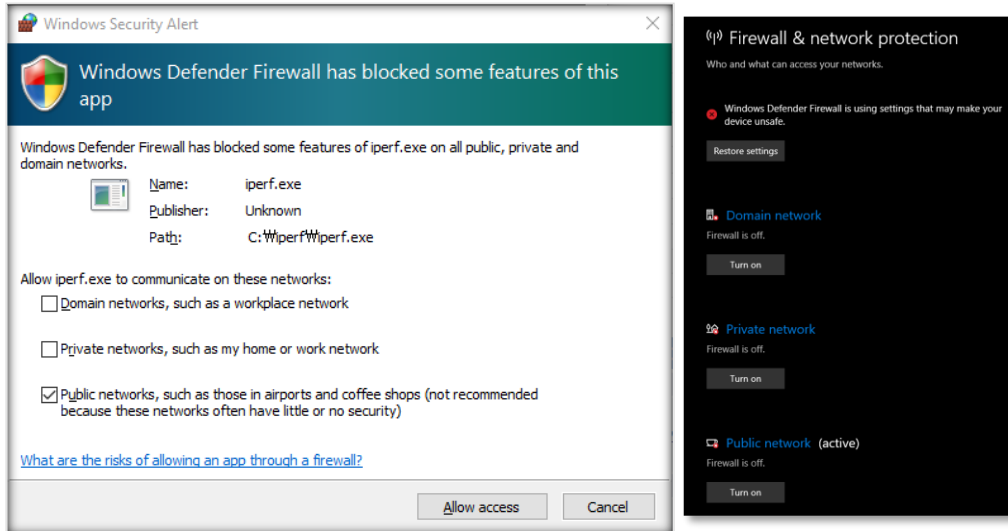

Figure 56. Disable firewall for iPerf test
3. To ensure stable iPerf testing, run the Windows Security APP and turn off the network firewall. Renesas Electronics recommends disabling the laptop from all network firewalls before attempting a test as shown in Figure 56.